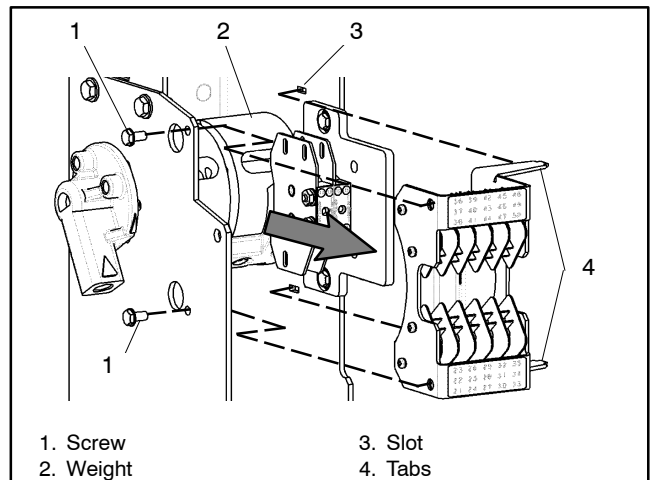

Figure 7-11 Auxiliary Contact Assembly Removal
4. Remove the auxiliary contact assembly from the weight. Use a 3/8 in. open-end or box wrench to remove two SEMS screws and remove the auxiliary contact assembly to gain access to the weight. See Figure 7-11.